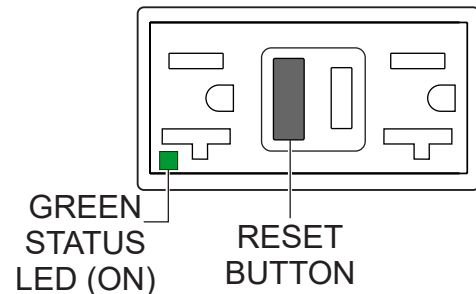

Figure 136. GFCI Receptacle (ON/Restore)
5. Press the **RESET button** (Figure 136) to restore power to the GFCI receptacle and verify that the status LED is **ON (GREEN)**.